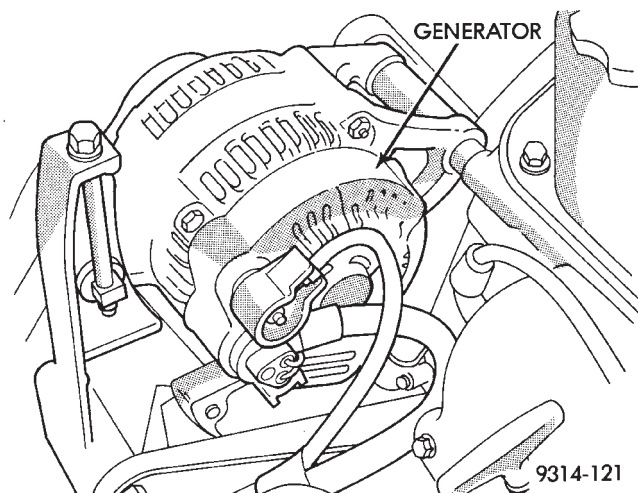

Fig. 40 Generator
(12) Ensure the accessory drive belt tension is correct.
(13) Check for loose or corroded connections at the generator (Fig. 40).